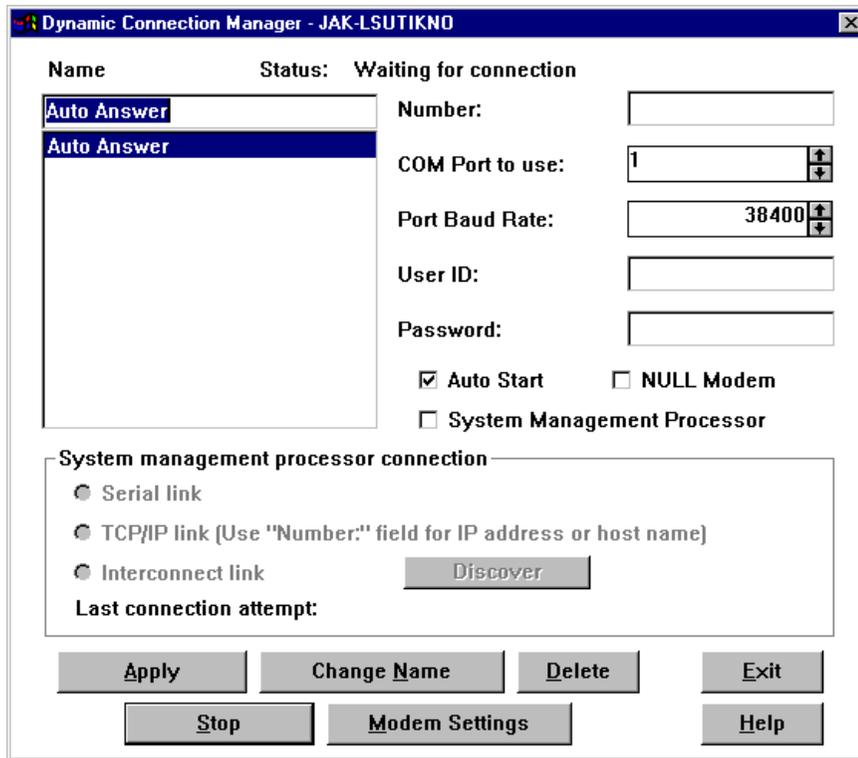

Figure 208. Dynamic Connection Manager
1. Start the Dynamic Connection Manager service. Figure 208 appears: